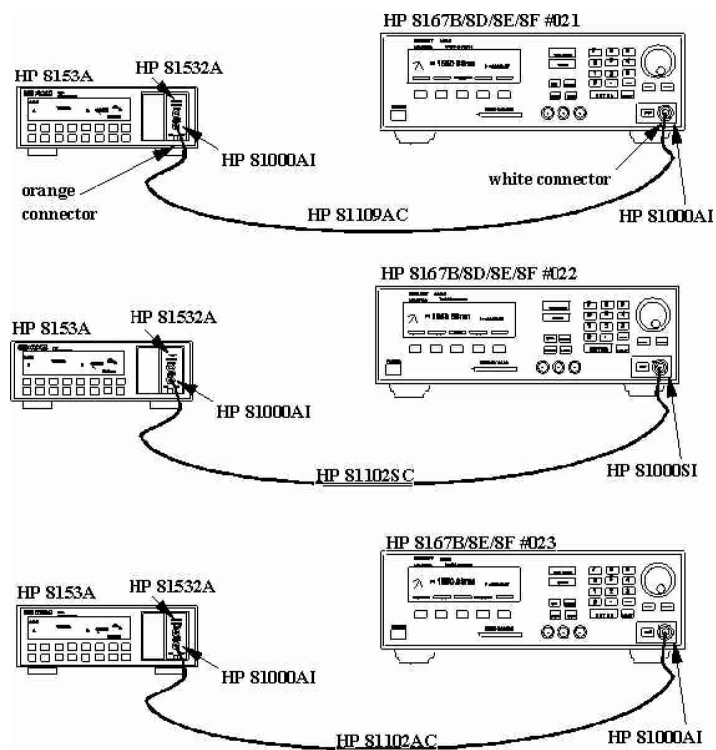

Figure D-4.
1. Set up the equipment as shown in Figure D-4 (HP 8167B, 8168D,E,F).